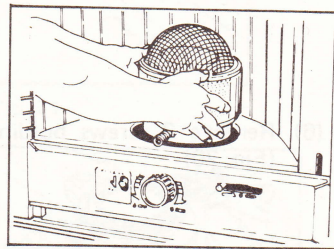

Fig. 15
(1) Remove the cartridge tank. Open the guard and remove the Burner. (Fig. 15)